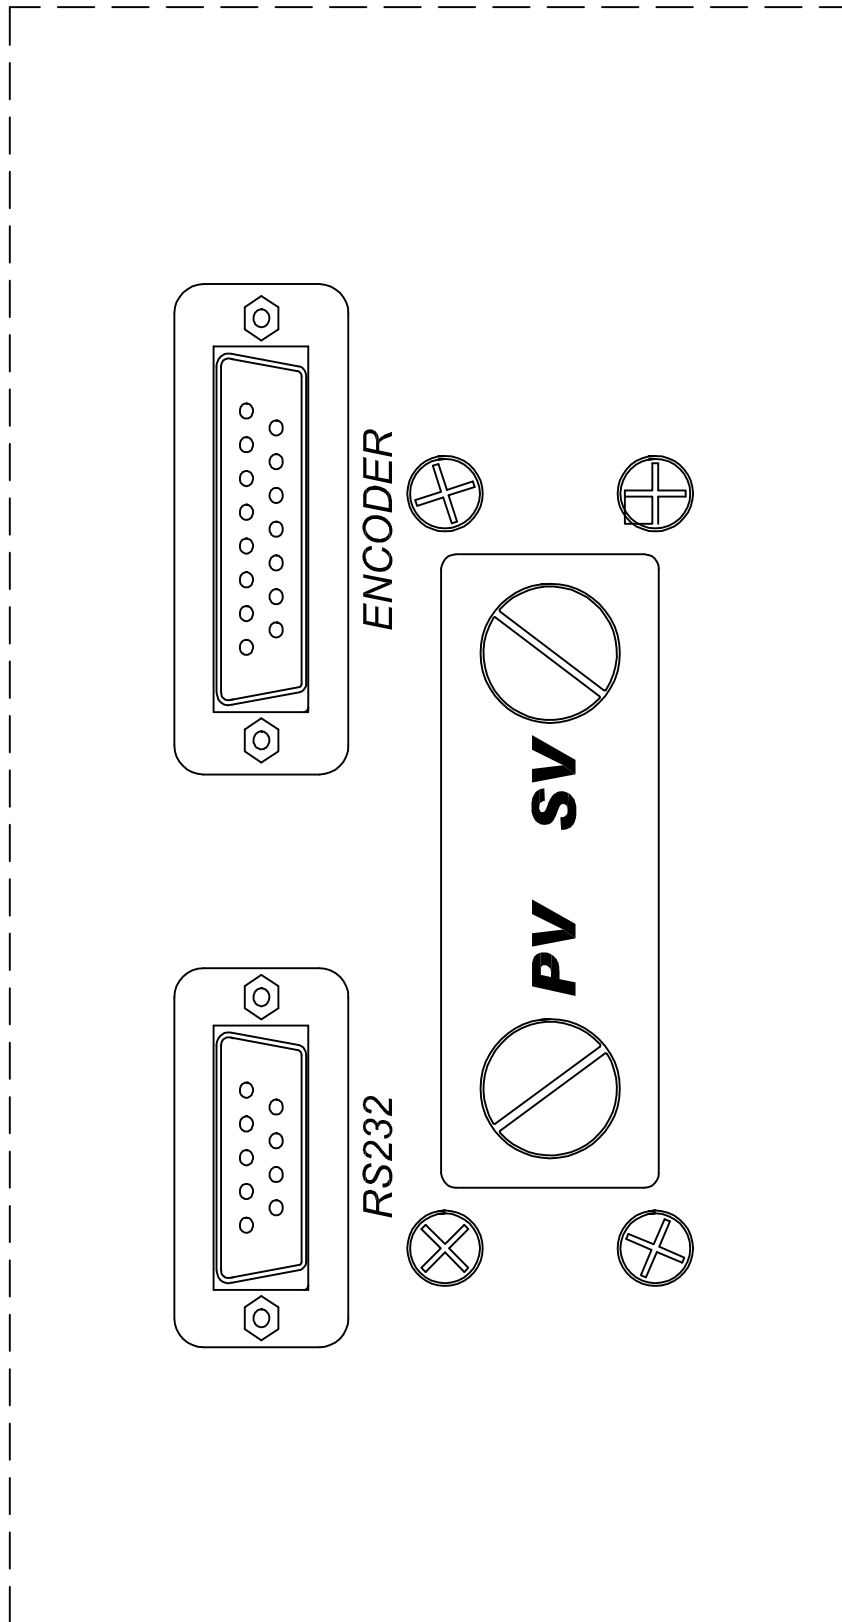

Figure 2.2
This connector is accessed by opening the “Interface Connectors” access panel. The connector is a standard DB-9 female connector used for a serial RS232 interface. It can be connected directly to the “COM” port of a standard PC to allow communication. This port is normally used for downloading “profiles” from a computer. Other remote communication with the 6300-M3 is also possible through this interface. Figure 2.2 shows the RS232 connector (6) with the panel removed. For more details on downloading profiles, please refer to Section 4. For more details on communication with the 6300-M3, please refer to Section 8.